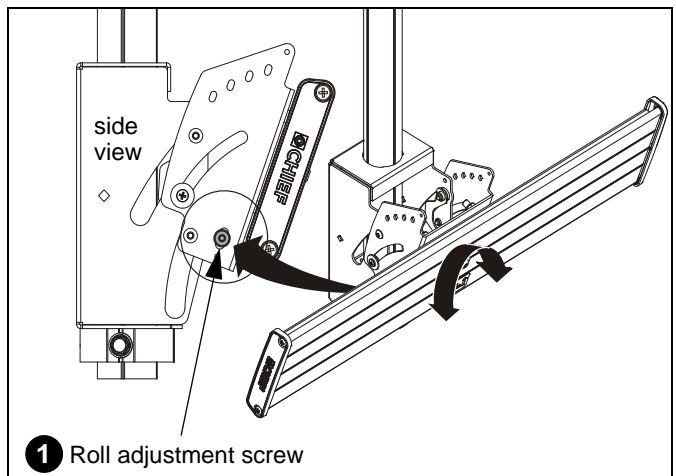

Figure 9
1. Turn the roll adjustment screw in the direction necessary for the desired roll. (See Figure 9)